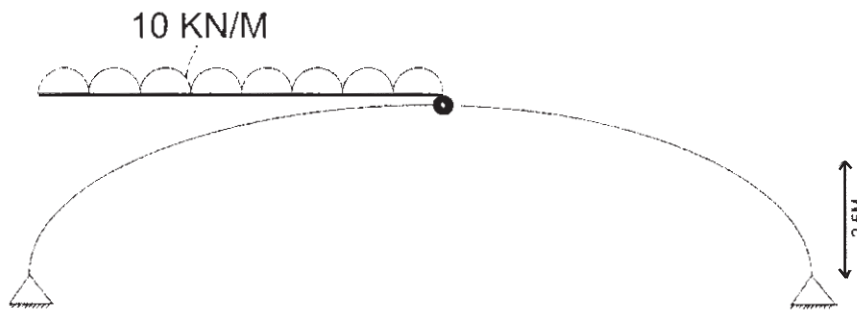

Fig. Q.6.a
- Q6) a)** A Three Hinged arch of span 20m is loaded & supported as shown in fig. Q.6.a Determine Normal Thrust & Radial Shear at 4m from the left support. [8]